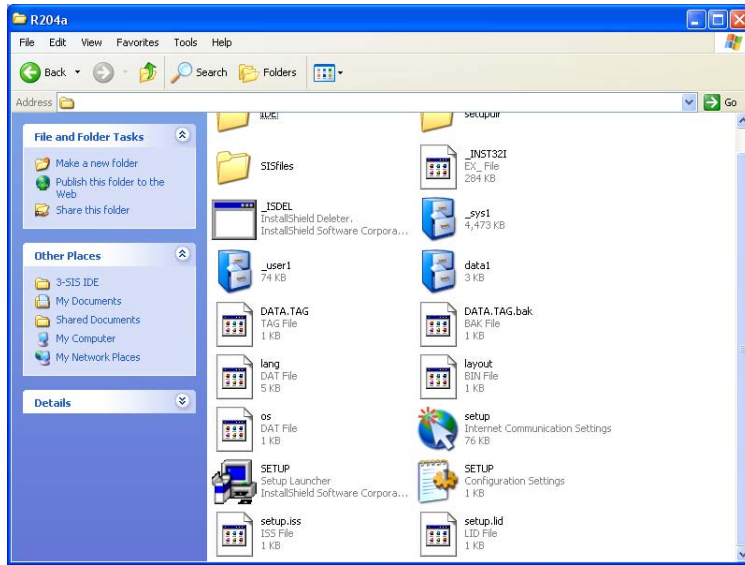

Figure 7-20: IDE Driver Setup Icon
Step 4: The screen in **Figure 7-20** appears.
Step 5: Click on the setup icon in **Figure 7-20**.